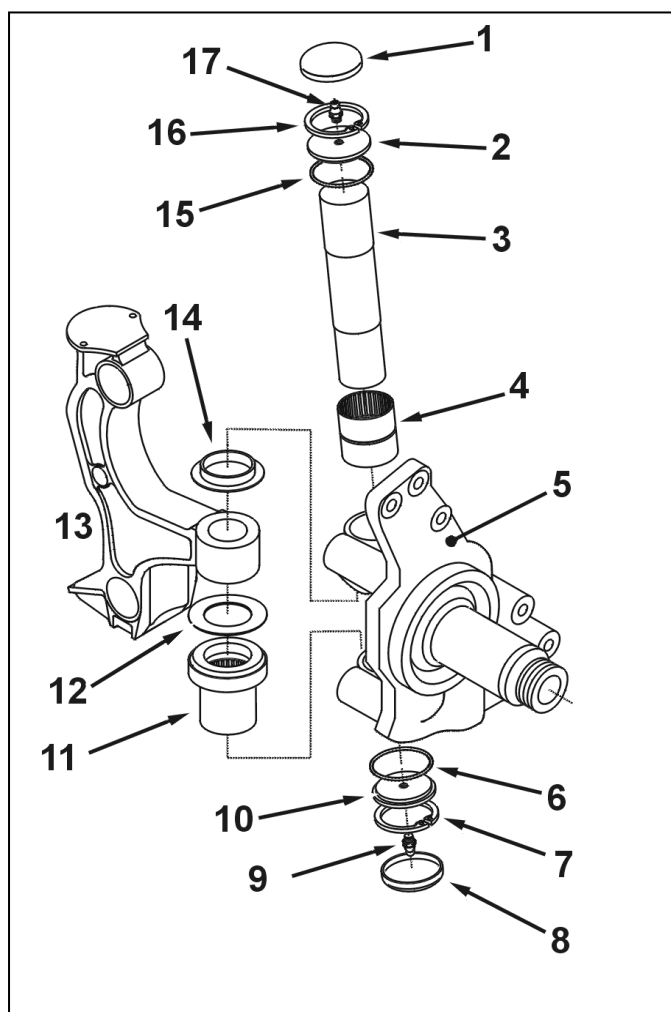

Figure 15: Steering knuckle assembly
5.1	Lever off, if installed, king-pin end caps (1-Figure 15) and (8 -Figure 15).
5.2	Remove snap rings (7-Figure 15) and (16-Figure 15).
5.3	Remove plugs (2-Figure 15) and (10-Figure 15). On a TD925US with steered tag axle only: instead of plug (2-Figure 15) an angle sensor for the tag axle steering system is installed on top of the left front king-pin. Remove the angle sensor.
5.4	Remove O-rings (6-Figure 15) and (15-Figure 15)